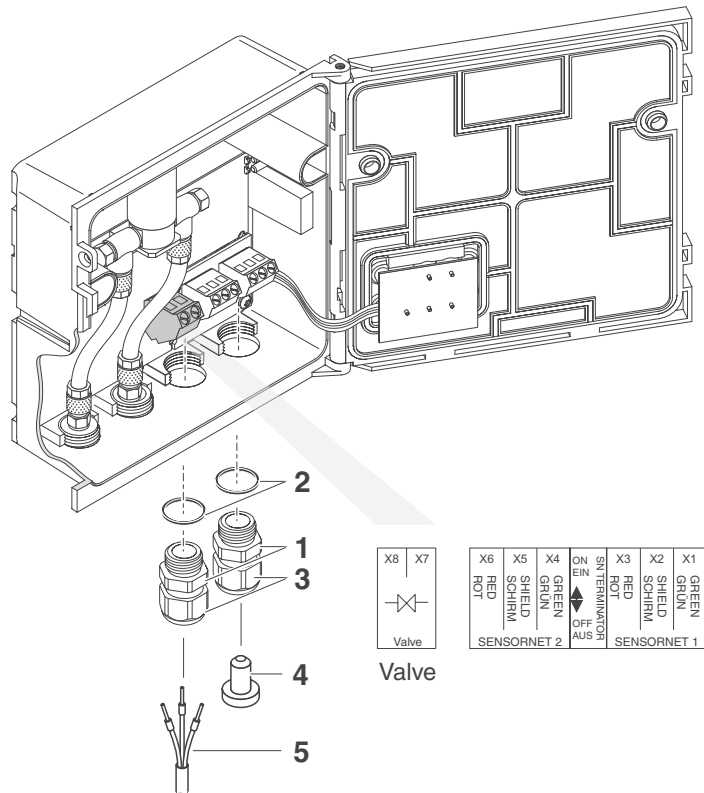

Fig. 3-1 Clamping termination for the valve control line
| 2 | Screw the cable gland (pos. 1 in Fig. 3-1) with the sealing ring (pos. 2) into the left connection opening. |
| 3 | Loosen the coupling ring (pos. 3 in Fig. 3-1). |
| 5 | Connect the wires of the valve control line (pos. 5 in Fig. 3-1) to the clamping termination for the valve control line. While doing so, pay attention to the specifications on the label located under the terminal strip. |
| 6 | Tighten the coupling ring (pos. 3 in Fig. 3-1). |
8	Screw a cable gland with sealing ring into the free opening and close it with the enclosed blind plug (pos. 4 in Fig. 3-1).
9	Tighten the coupling ring (pos. 3 in Fig. 3-1).